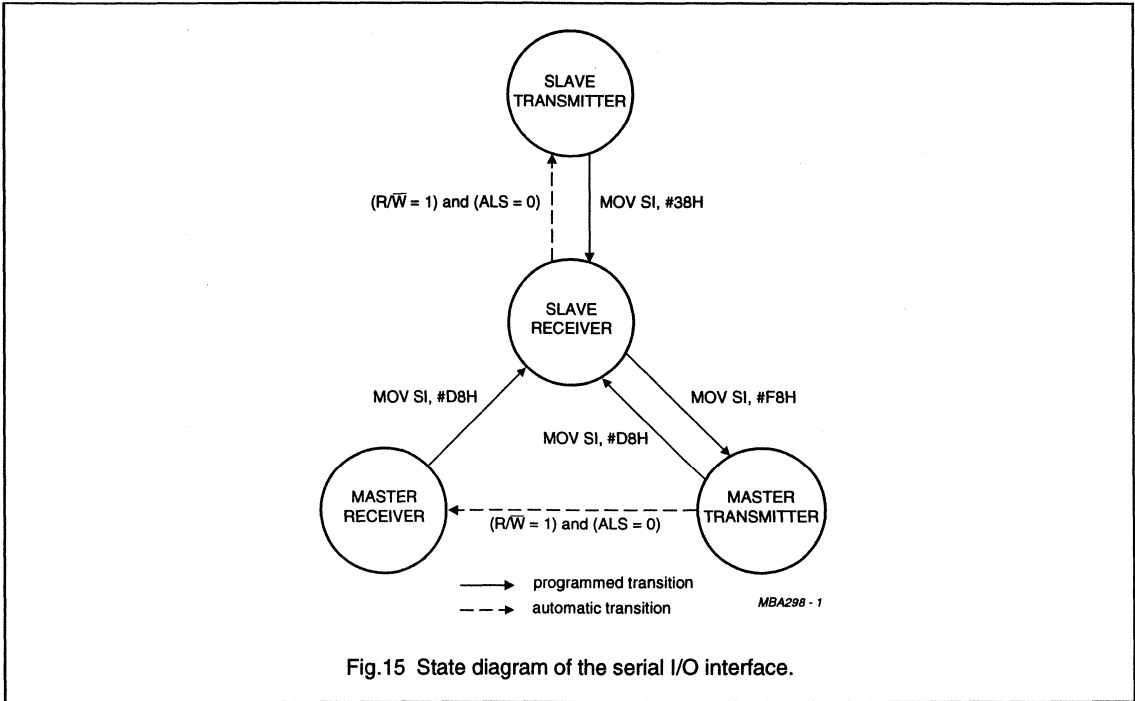

Fig.15 State diagram of the serial I/O interface.
MST and TRX together define the state of the serial I/O interface. When not engaged in a bus transfer MST and TRX should always be at zero, the slave/receiver state (see Fig.15). Return to this state is always performed by software. If the previous state was the master state, the transition (to slave/receiver by MOV1,#D8H) involves a stop condition which, as a consequence, clears both MST and TRX.
The Bus Busy bit (BB) is controlled by the serial I/O interface or by software in the bus master to generate the start and stop conditions. When a master clears BB (by MOV S1, #D8H), the serial I/O interface automatically clears MST and TRX, thereby returning to the slave/receiver state (see Fig.15). If BB = 1, write access to S1 is inhibited, except for the master or an addressed slave. Should BB be inadvertently set by excessive noise on the bus, the deadlock can be resolved by two consecutive MOV S1, #18H, the first of which just clears BB.
When a slave/transmitter detects an end of transmission (signalled by the lack of an acknowledgment from the master receiver), it has to access S1 in order to cancel PIN and to become slave/receiver. However, BB should remain set. This is reflected by MOV S1, #38H as illustrated in Fig.15. With PIN = 1, 'clock synchronization' terminates, enabling the master to generate the stop condition.